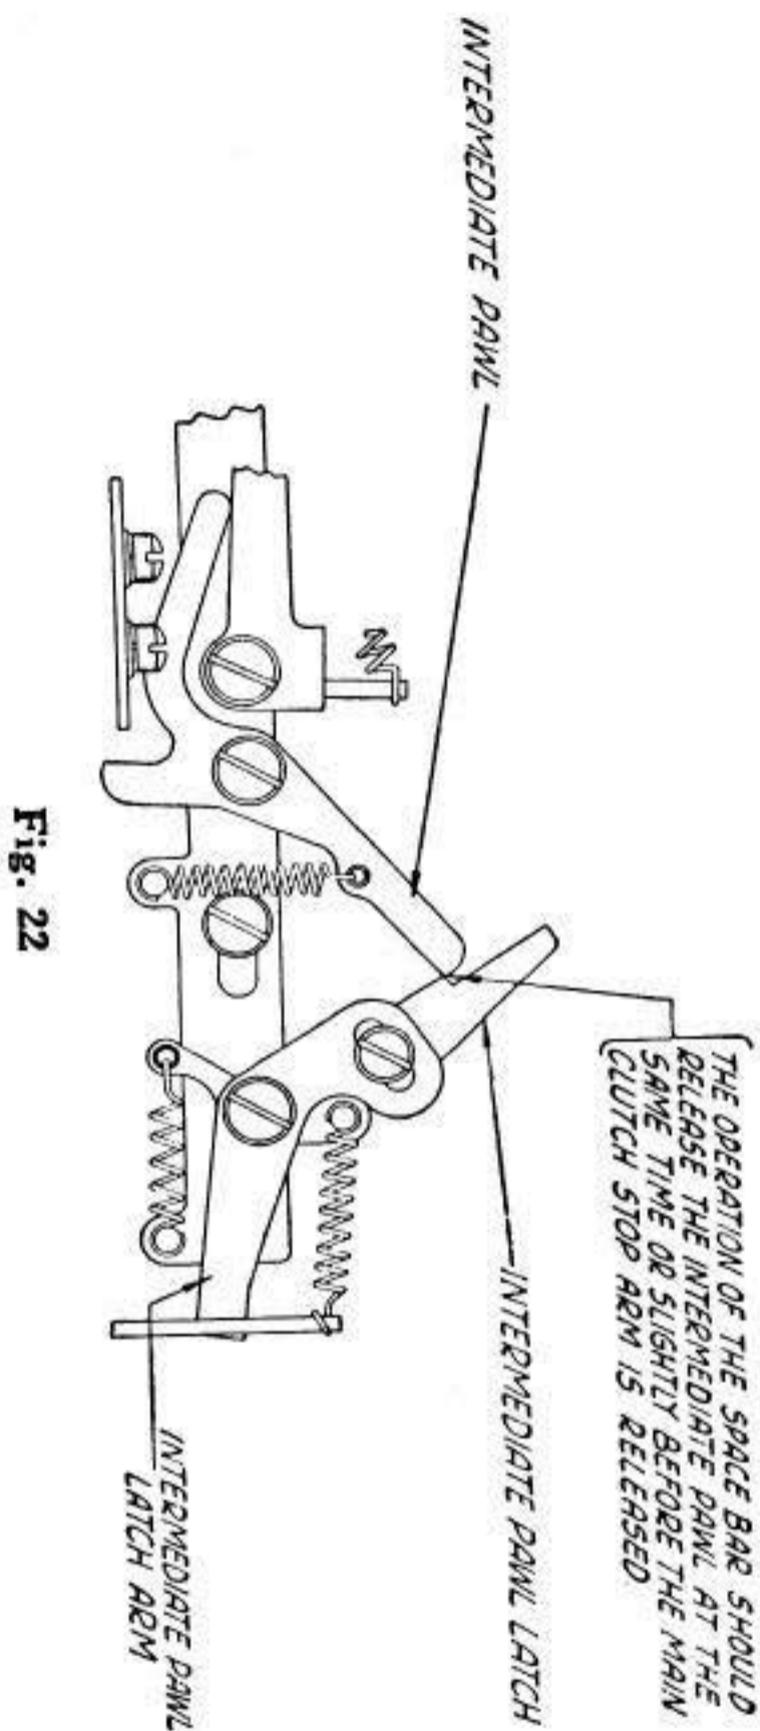

Fig. 22
- (1) To adjust, position the intermediate-pawl-latch arm by means of its elongated mounting hole. **Fig. 22**